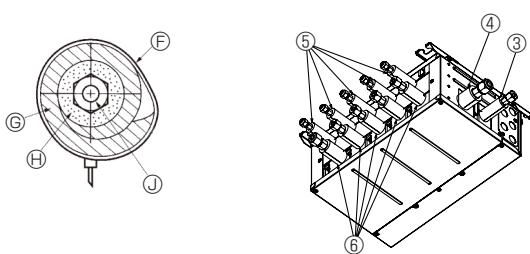
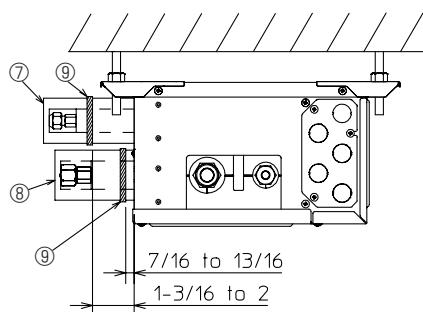

Fig. 7-4
Fig. 7-5
- Insulate the liquid and gas pipes of the branch box by attaching the heat-resistant polyethylene foam tightly around them. (Fig. 7-4)
- (5) Press the pipe covers (3) and (5) on the liquid piping against the unit and wrap to hold in place. (Fig. 7-4)
- (6) Press the pipe covers (4) and (6) on the gas piping against the unit and wrap to hold in place. (Fig. 7-4)
- (7) Apply the supplied bands (9) at a position 7/16-13/16 inch (10 - 20 mm) from each end of the pipe covers (3)(4)(5)(6).
- (8) If the indoor unit is not connected, fit the supplied pipe covers (with caps, 7 and 8) to the branch box refrigerant piping connections against the unit to prevent condensation dripping from the pipes. (Fig. 7-5)
- (9) Clamp the pipe covers (7)(8) in place with the supplied bands (9).
- ⑤ Band (3.1 Accessories No. ⑨)
- ⑥ Pipe covers (3.1 Accessories No. ③④⑤⑥)
- ⑧ Thermal insulation for refrigerant piping
- ⑩ Refrigerant piping
7.2. Handling of ports that are not connected to outdoor unit (Fig. 7-5)